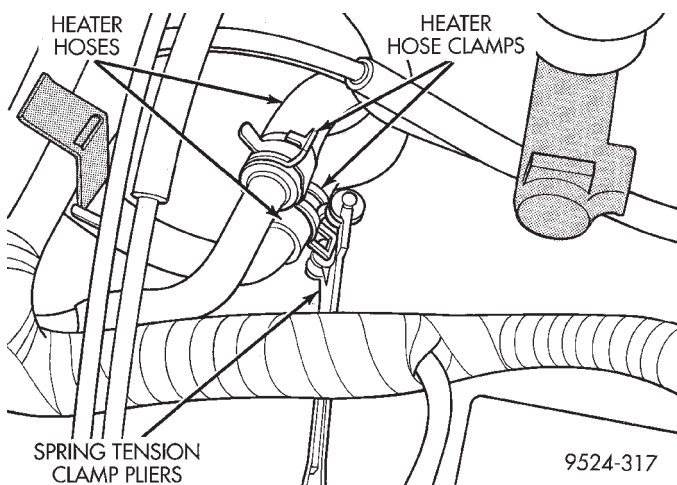
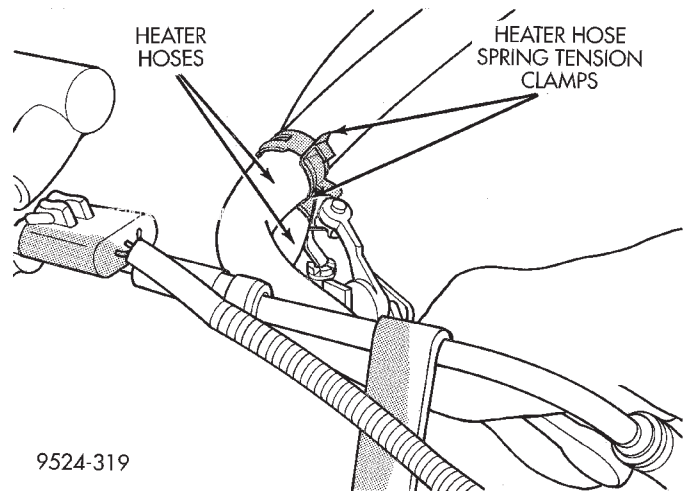

Fig. 55 Heater Hose Connection At Engine
Fig. 56 Heater Hose Connection At Heater Core
- (1) Drain engine cooling system. Refer to Group 7, Cooling System.
- (2) Using spring tension clamp pliers, remove clamps at each end of hose to be removed (Fig. 55) and (Fig. 56).
- (3) Carefully rotate hose back and forth while tugging slightly away from connector nipple.
- (3) Remove intake manifold plenum. Refer to Group 11, Exhaust System And Intake Manifold for service information.
- (4) Using spring tension clamp pliers, remove clamp at heater core end of hose to be removed (Fig. 56).